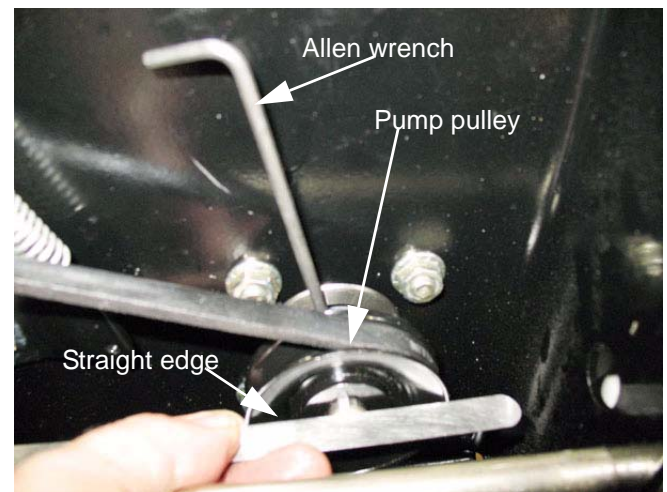

Figure 4.4
1.4. To check belt alignment. See Figure 4.4.